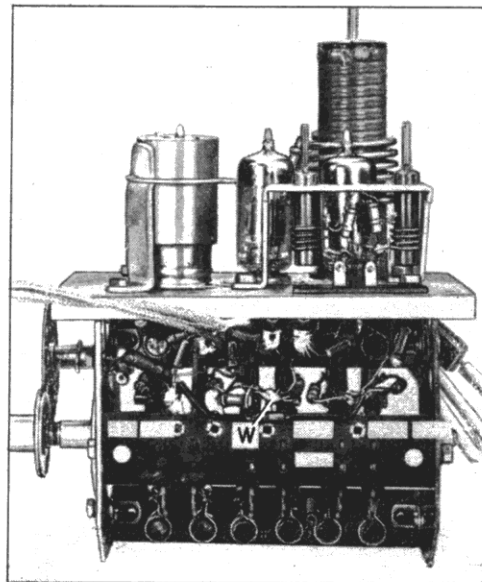

Fig. 3-7. TV Tuner A1582, Right Side.
- Connect oscilloscope through 10,000 ohm resistor to point "W" (Figure 3-7). Keep oscilloscope leads away from chassis.